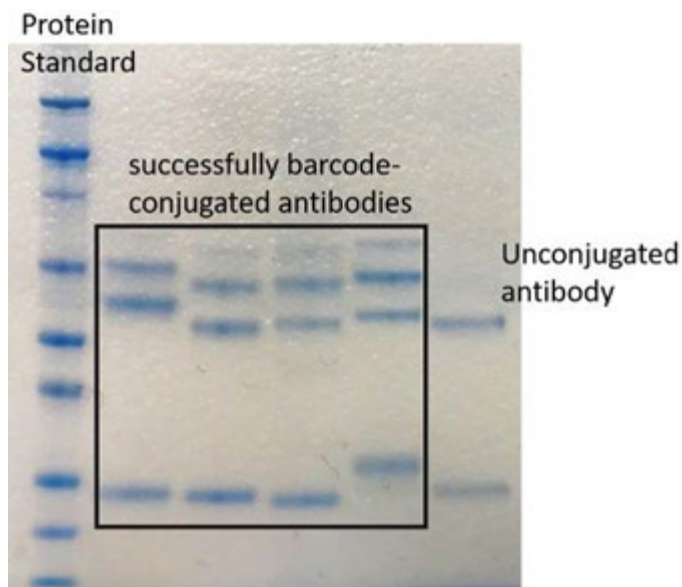

FIGURE B-5: Gel Visualization
- g. Wash the gel with ddH₂O and leave it on the shaker until bands are visible (see FIGURE B-5). More microwaving steps can be added to accelerate this process or it can be left overnight on a shaker. Additionally, it is important to change the water.